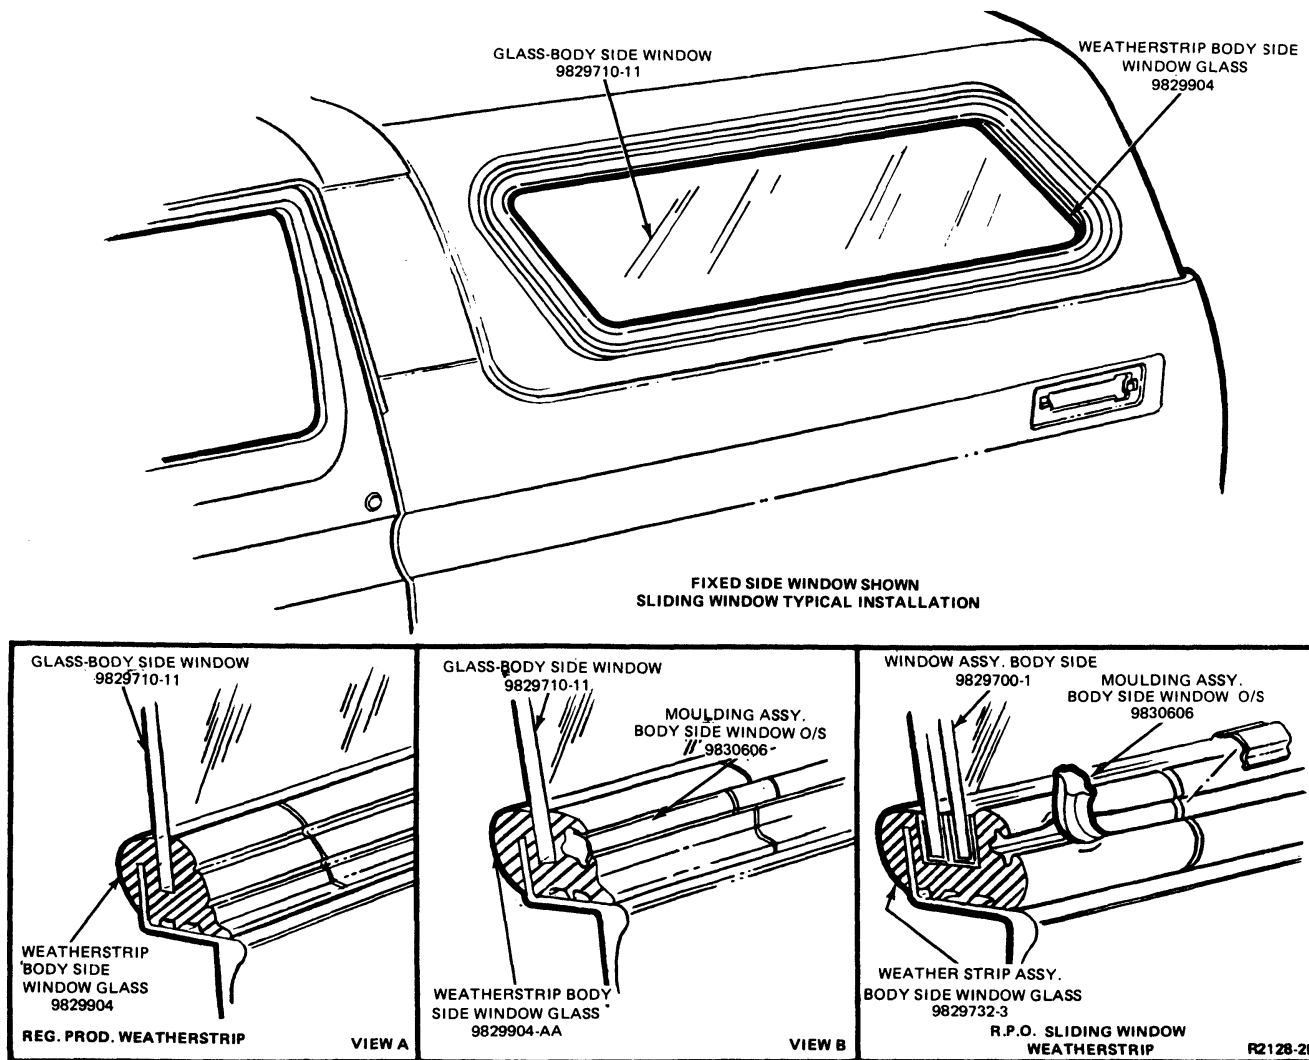

FIG. 2 Rear Side Window Installation—Bronco
- Remove the weatherstrip from the glass (Fig. 2).
- Run a bead of sealer around the opening flange and in the inner flange crevice of the weatherstrip. See Figs. 2 and 3.